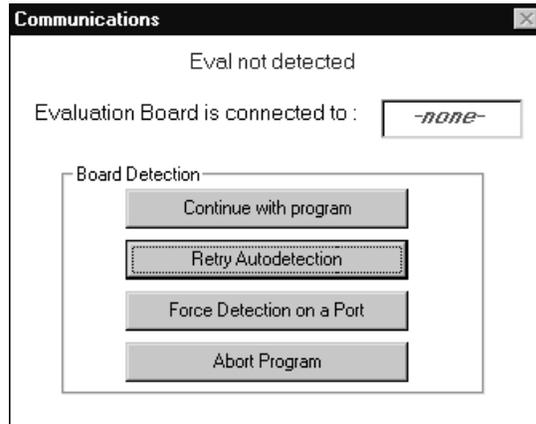

Figure 7. Board Detection Screen
**A** – If you are shown the screen in Figure 7 when you first clicked on the Ev2018ev icon, the serial link is not connected correctly. Secure the serial cable connection at the EV2200 and the PC and check with the computer manual to verify the COM port selection.